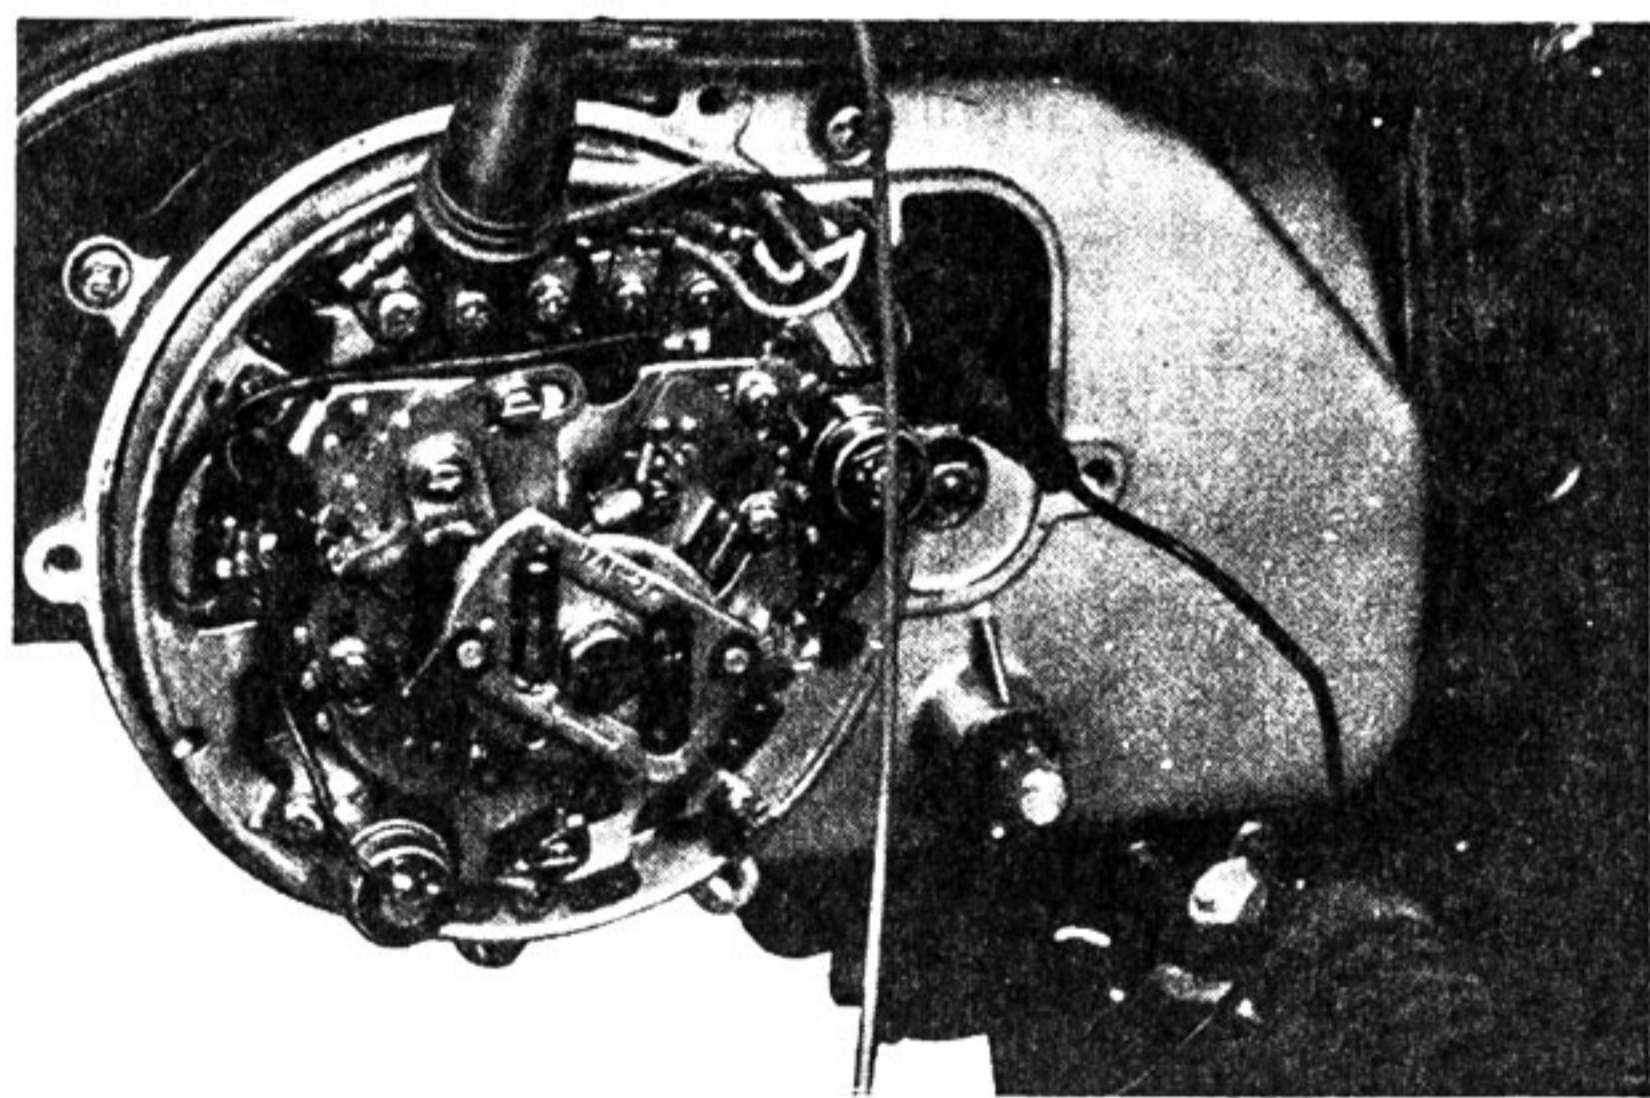

Fig. 6-5-16
- (6) Connect the electrotester (or point checker) terminals to the point assembly. Positive (+) lead to  $I_1$  or  $I_2$ , Negative (-) to a good ground. (Fig.6-5-16)